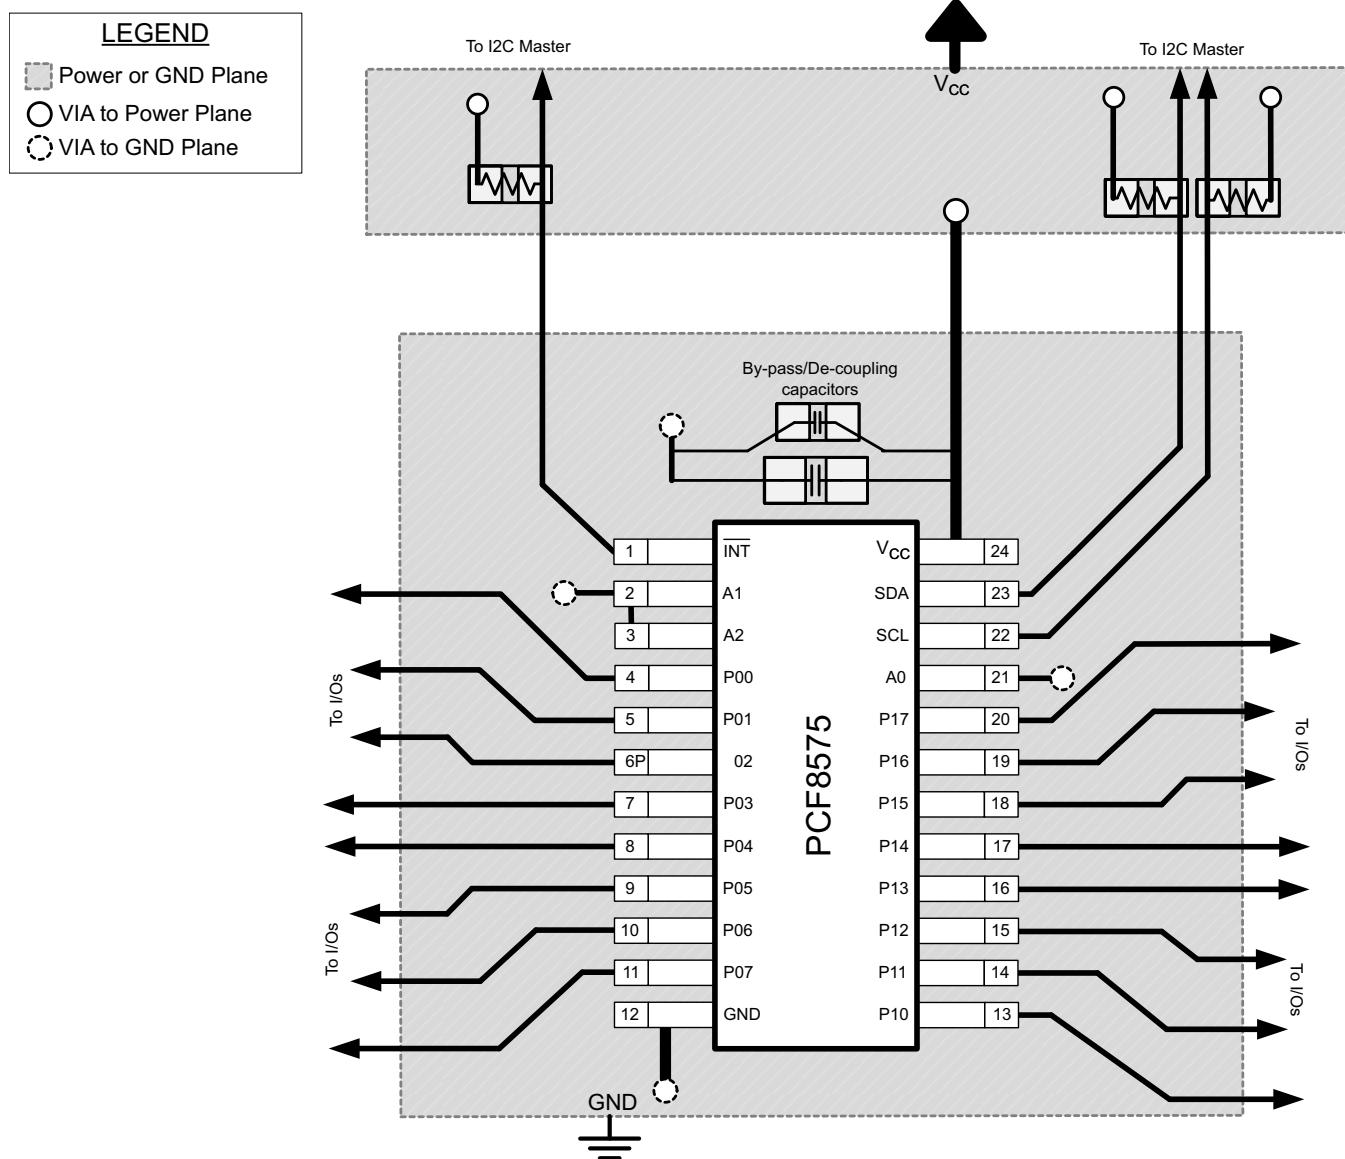

Figure 25. Layout Example for PCF8575
In all PCB layouts, it is a best practice to avoid right angles in signal traces, to fan out signal traces away from each other upon leaving the vicinity of an integrated circuit (IC), and to use thicker trace widths to carry higher amounts of current that commonly pass through power and ground traces. By-pass and de-coupling capacitors are commonly used to control the voltage on the VCC pin, using a larger capacitor to provide additional power in the event of a short power supply glitch and a smaller capacitor to filter out high-frequency ripple. These capacitors should be placed as close to the PCF8575 as possible. These best practices are shown in Figure 25.
For the layout example provided in Figure 25, it would be possible to fabricate a PCB with only 2 layers by using the top layer for signal routing and the bottom layer as a split plane for power (VCC) and ground (GND). However, a 4 layer board is preferable for boards with higher density signal routing. On a 4 layer PCB, it is common to route signals on the top and bottom layer, dedicate one internal layer to a ground plane, and dedicate the other internal layer to a power plane. In a board layout using planes or split planes for power and ground, vias are placed directly next to the surface mount component pad which needs to attach to VCC or GND and the via is connected electrically to the internal layer or the other side of the board. Vias are also used when a signal trace needs to be routed to the opposite side of the board, but this technique is not demonstrated in Figure 25.